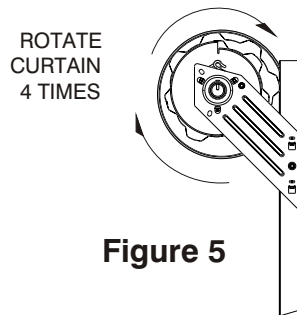

Figure 5
1. Rotate banded curtain as shown in Figure 5 and wind on 4 initial turns. Use the bottom bar as the reference point in measuring the initial turns.
- C. Rotate curtain to remove the initial turns put on in Step 1. Rotate curtain opposite to Figure 5.
- F. Rotate curtain and feed bottom bar into guides. See Figure 5.Repeat steps as necessary.